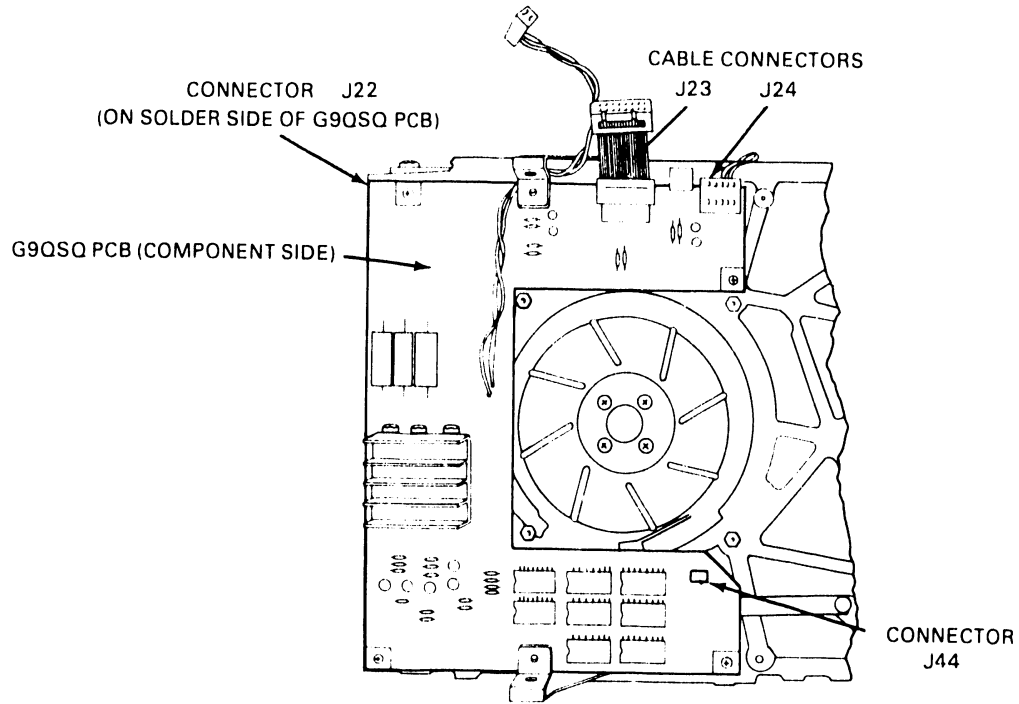

Figure 4-5 G9QSQ Cable Connectors
7. Disconnect cable connectors J22, J23, J24, and J44 (see Figure 4-5).
8. Remove the three screws that attach the G9QSQ PCB to the drive unit (see Figure 4-5).